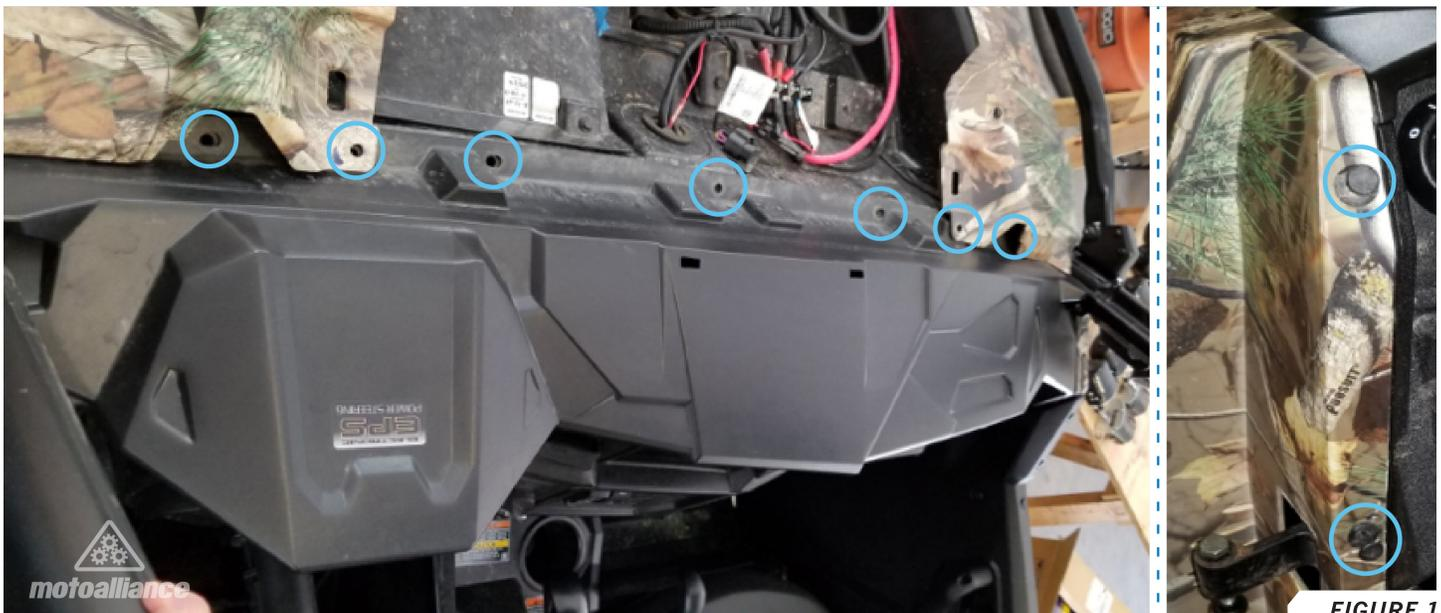

FIGURE 1
7. Remove dash cover panel as shown in *FIGURE 1*.